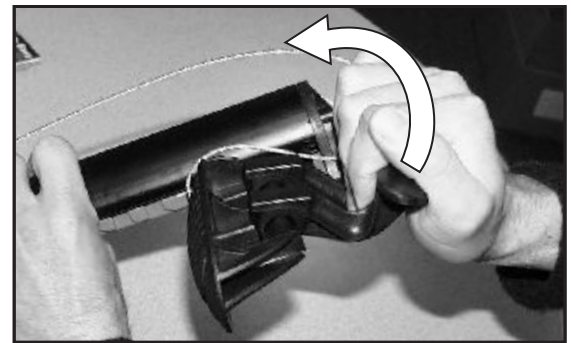

Figure 2. Rotate Toe Pilot upward until it snaps onto pivot post.
- c) Rotate Toe Pilot upward so that it snaps onto the Footbrace Pedal. (Fig. 2)